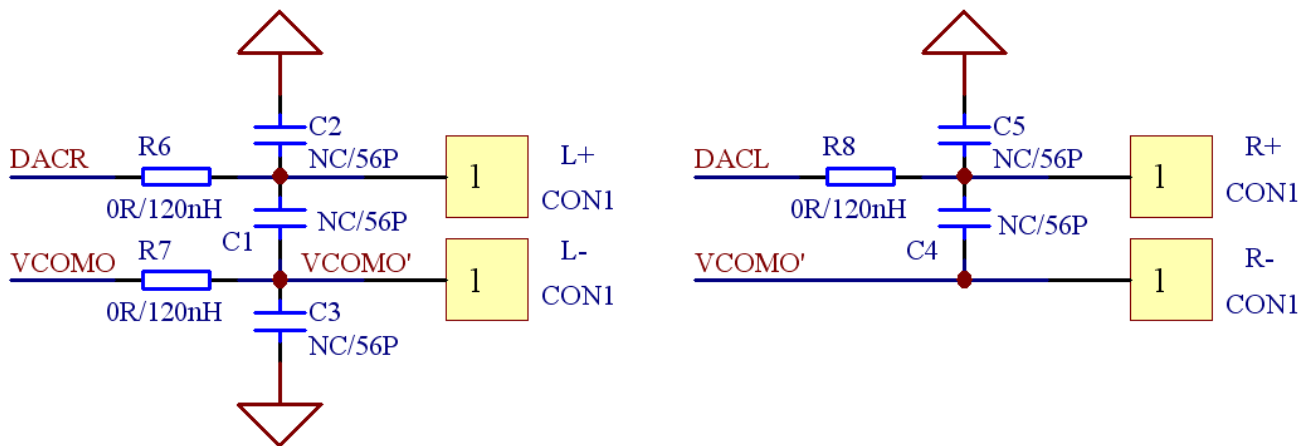

Figure 3 DAC suppression RF antenna interference circuit
- 1) Figure 3 is the circuit for DAC suppression of RF antenna interference and TDD interference, it is recommended to reserve; if space is limited, only R6/R7/R8 can be reserved.